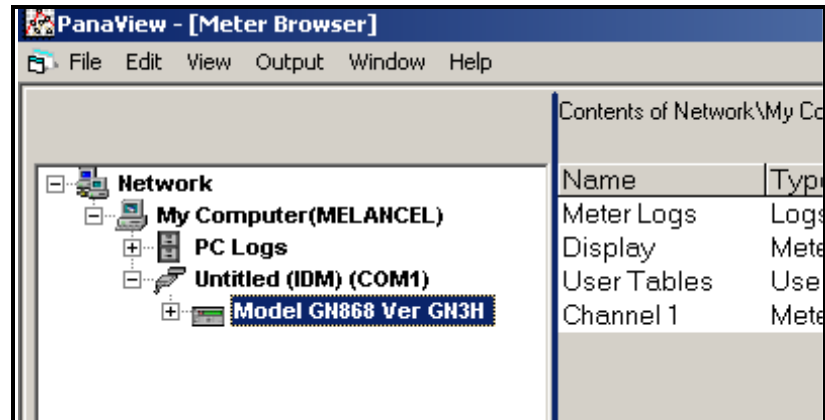

Figure D-6: The Updated Network Tree
If the initialization is successful, the Meter Browser shows a listing similar to Figure D-6 below.
1. Highlight the meter (as shown in Figure D-6 on page D-6).